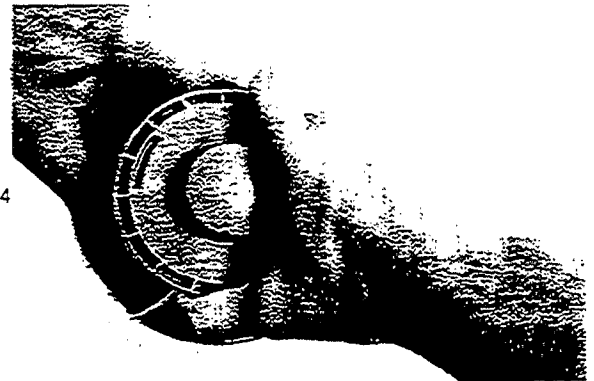

Figure 4
- Thread rotary head with fan onto the motor shaft as far as possible (Fig. 4). Head will thread itself all the way onto the motor shaft and tighten itself when you start the trimmer.